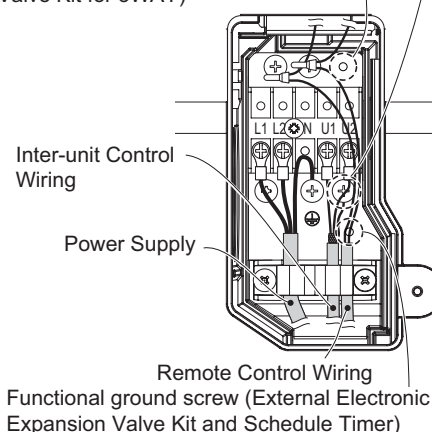

Fig. 2-210
- (4) Route the inter-unit wiring from the back of the indoor unit and pull it toward the front for connection. (Fig. 2-210)
- (5) Connect the inter-unit wiring to the corresponding terminals on the terminal plate (Fig. 2-210) while referring to the wiring diagram.